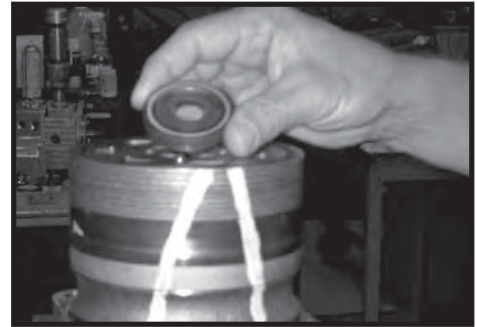

Figure 10
8. Remove commutator (5) and seal ring (3) Remove seal ring from commutator, using an air hose to blow air into ring groove until seal ring is lifted out and discard seal ring. Inspect commutator for cracks or burrs, wear, scoring, spalling or brinelling. If any of these conditions exist, replace commutator and commutator ring as a matched set. SEE FIGURE 10 & 11.